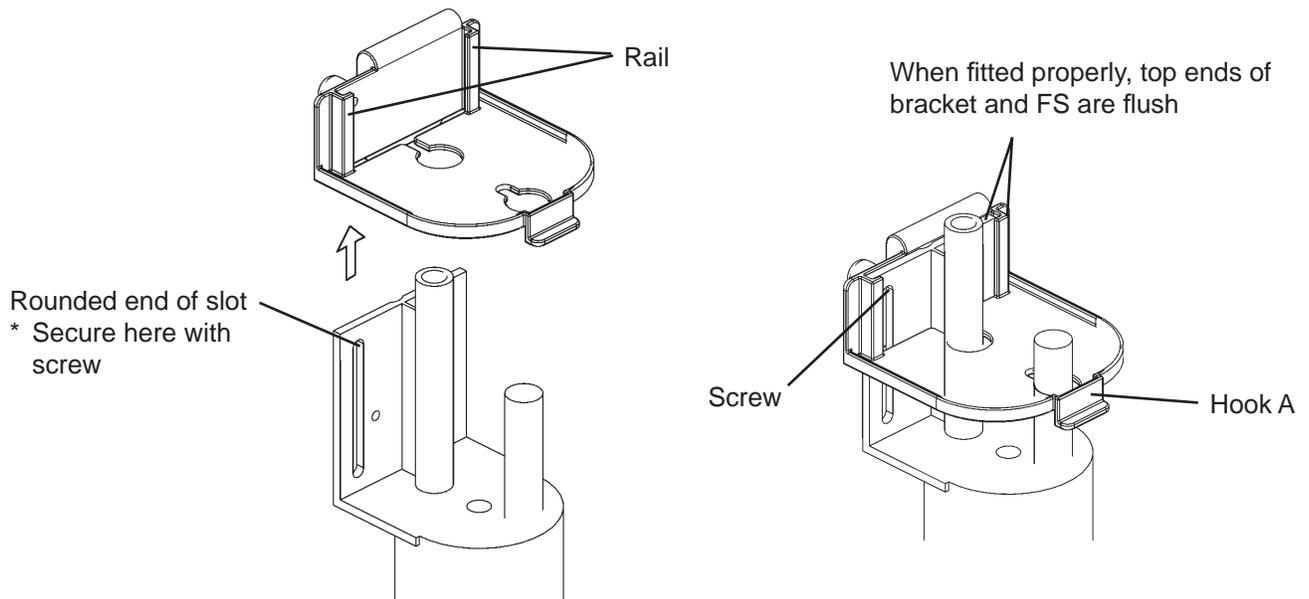

Fig. 10
- 9) Attach the FS to the bracket rail. See Fig. 10. Secure it with the screw by fitting the rounded end of the slot to the screw hole.